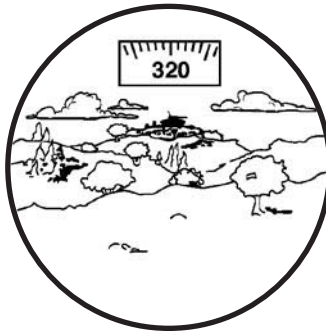

Figure 3-25. View Through Installed Compass
(3) To view the compass through the monocular, grip the compass with your index finger on top and your thumb on the illumination button on the bottom. Press the button slowly with your thumb until the proper brightness is obtained. The image should appear as shown in Figure 3-25.
(4) The compass readings should change when you move your head from side to side. Rotate or tap the compass slightly to ensure that the compass is operating correctly. Hold the monocular in a level position to assure free rotation of the compass scale.
(5) The tick mark closest to the center of the lighted display is the compass bearing. The tick marks are in degrees, with longer tick marks every five degrees and bearing labels every 10 degrees.